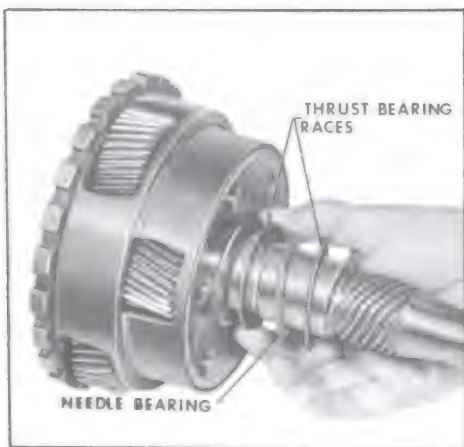

Figure 5-306
1. Install thrust bearing race with a lip, needle bearing, and a second plain thrust bearing race to the rear face of the planetary gear set. Retain with grease. See Figure 5-306.